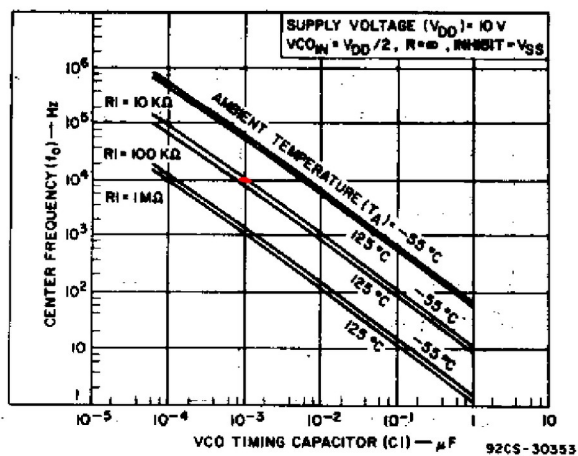

Fig. 5 – Center frequency as a function of $C1$ and $R1$ for ambient temperatures of -55°C to 125°C .
1. CD4046 Timing Components: This part was fun, there are no formulas to calculate anything here as they'd lie to you, instead, you have to look at figure 5 and 6 from its datasheet and figure it out yourself: